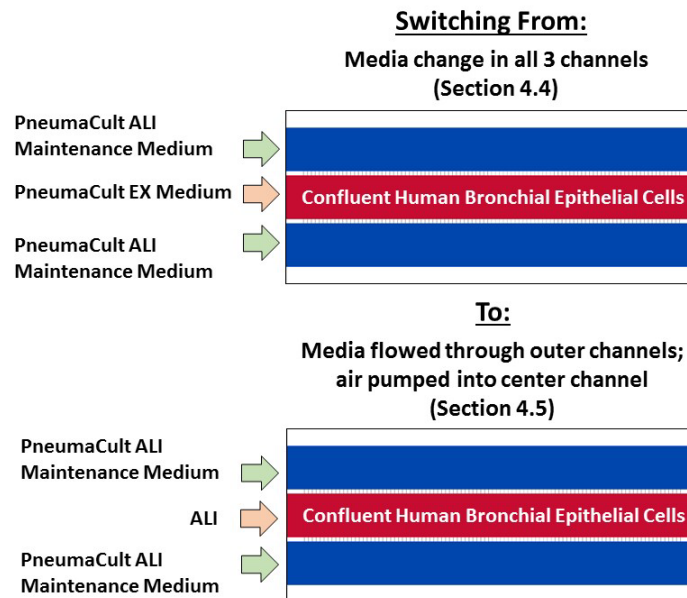

Figure 1. HBE monoculture will be switched to air and PneumaCult ALI maintenance medium will be flowed through the outer channels.
1. Prepare **two** 1-mL syringes filled with PneumaCult ALI Maintenance medium **per device**. The 2 outer channels will be flushed with media while the HBE cells receive air (**Figure 1**).